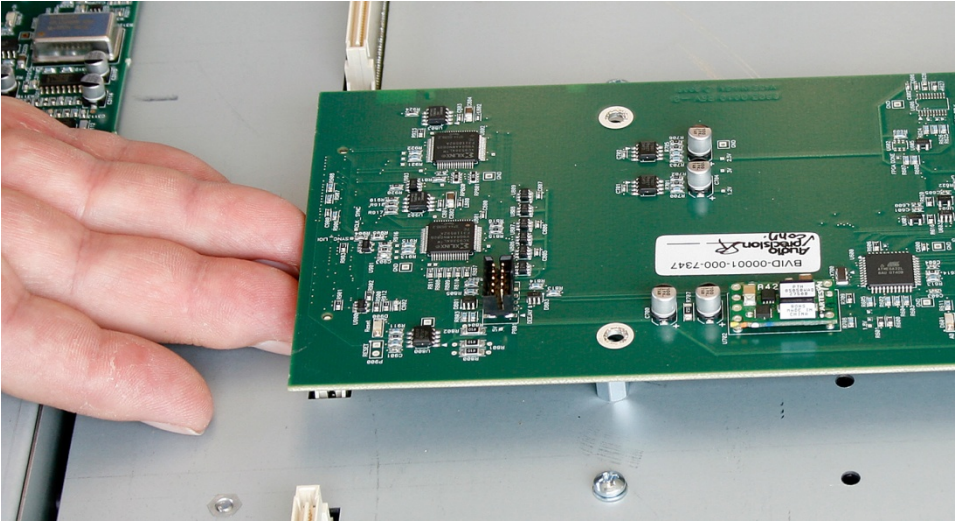

Figure 3 Unplugging the BVID board
9. Gently lift the end of the BVID board to unplug it from the connector, as shown in Figure 3.